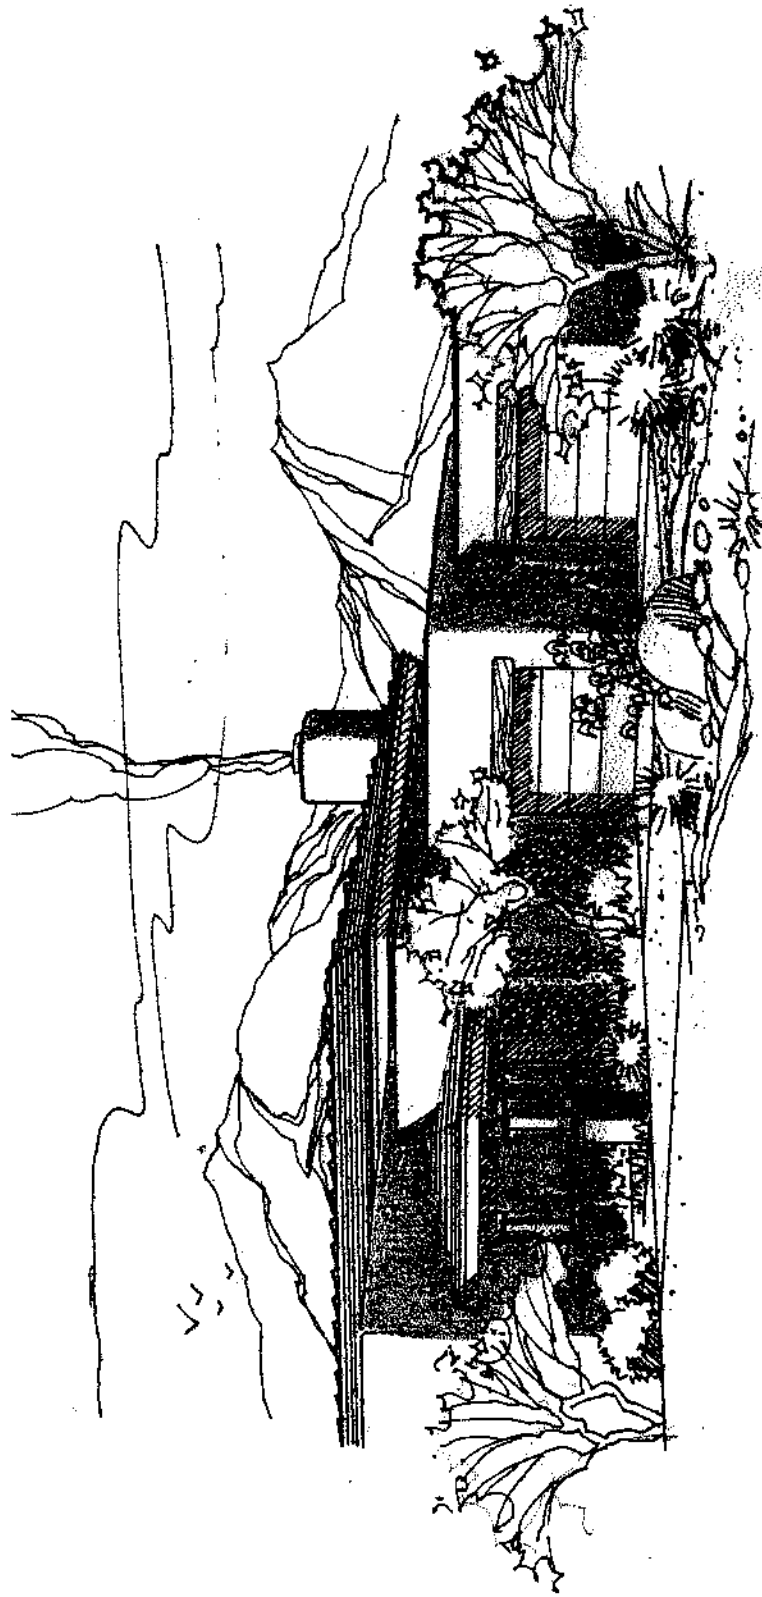

Figure 11
- Figure 11 - Porches and Overhangs